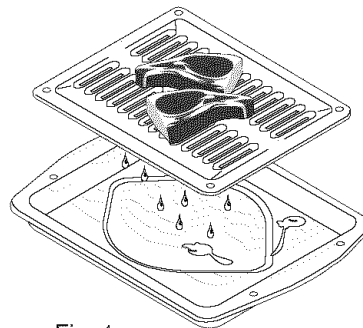

Fig. 1
The broiler pan & the insert (See Fig. 1; some models) allows grease to drain & be kept away from the high heat of the broiler. **DO NOT** use the pan without the insert. **DO NOT** cover the insert with foil; the exposed grease could ignite. **DO NOT** use the broil pan without the insert or cover the insert with **aluminum foil**. The exposed fat could ignite.
1. Open oven door completely (horizontal with floor - See Fig. 1).
3. Fully open the oven door (horizontal with floor - See Fig. 1).